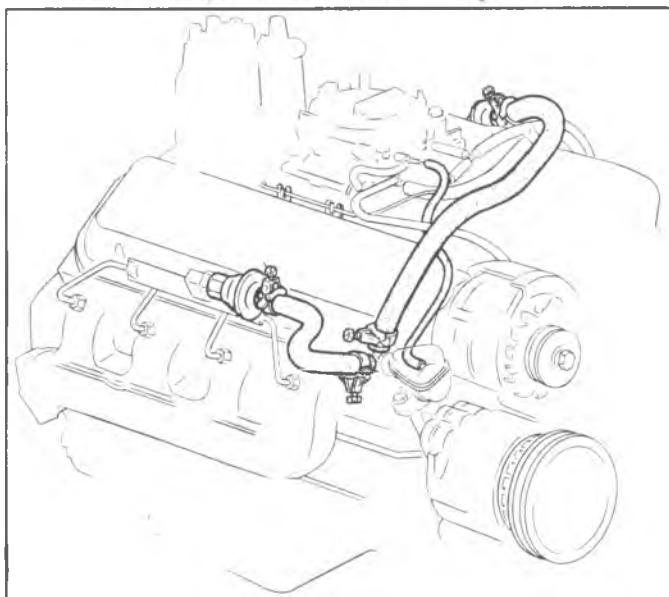

Fig. 18f—Mark IV V8 A.I.R. Hoses
- Check all tube and hose routing (fig. 18f and 19f). Interference may cause wear.